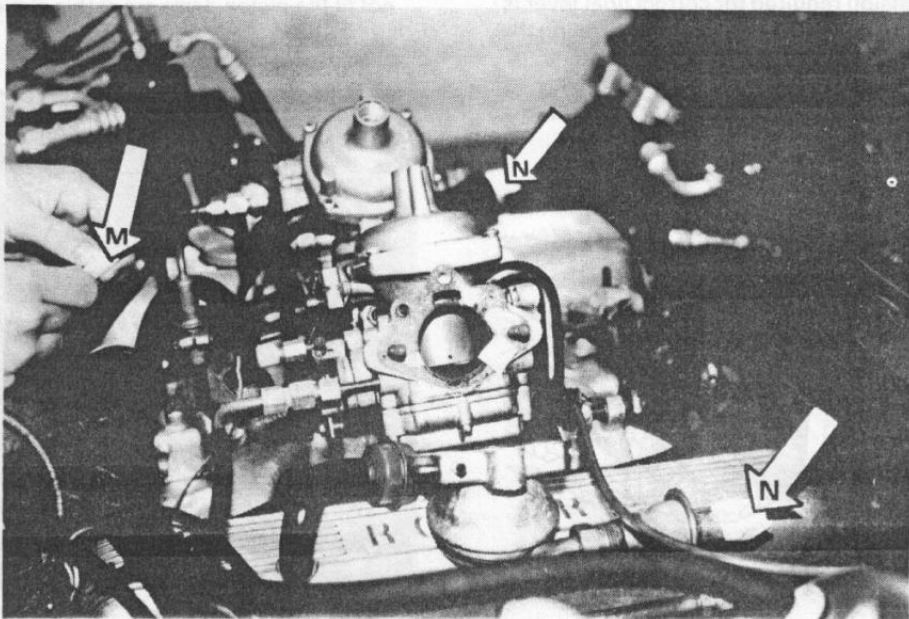

FIG. 77
21. Though the pulse air system has no actual effect on engine tuning it is necessary in preparation for checking emissions, to ensure that there are no air leaks into the pipe system and that the check valves open in one direction and do not allow exhaust gas to leak back into the carburettor air filter. Having checked the pipe system, seal both valves with tape, as seen in Fig. 77.
Finally seal off the manifold vacuum connection to the hot air intake with tape "M" Fig. 77 and ensure that the flame trap in the distributor retard pipe seen in Fig. 54 Part 2 is clean and connected.